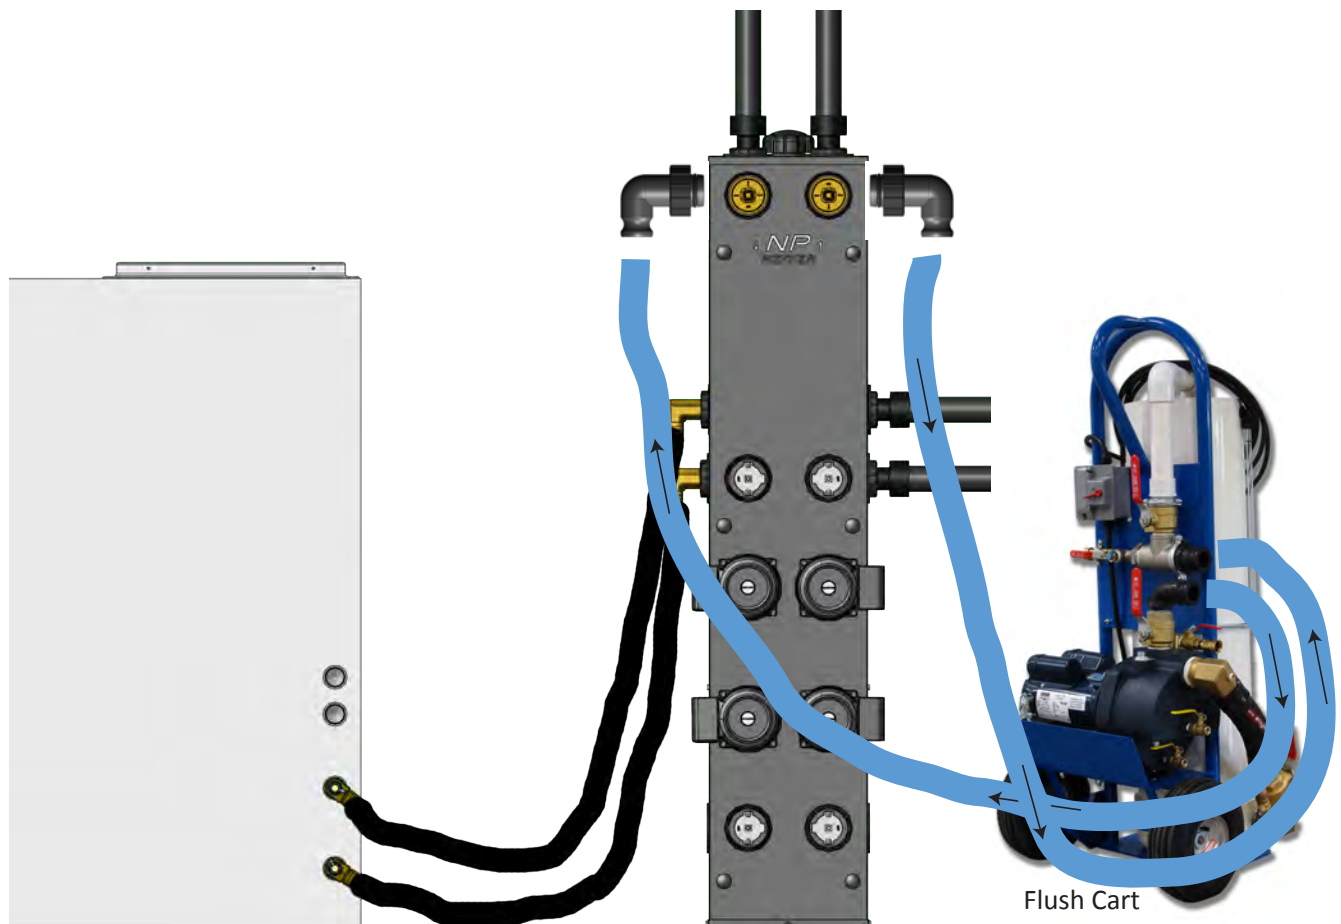

Figure 6: Connecting flush cart to NPD flow center
3. Attach the flush cart to the 3-way valves using Flo-Link double O-ring X 1" CAM fittings (Figure 6). The flush cart pump discharge hose should be connected to the upper left valve and the return hose should be connected to the upper right valve. Apply a small amount of lubrication to the O-rings to allow the fittings to be installed and removed with little force (see note below). The plastic nuts should be hand-tightened only.